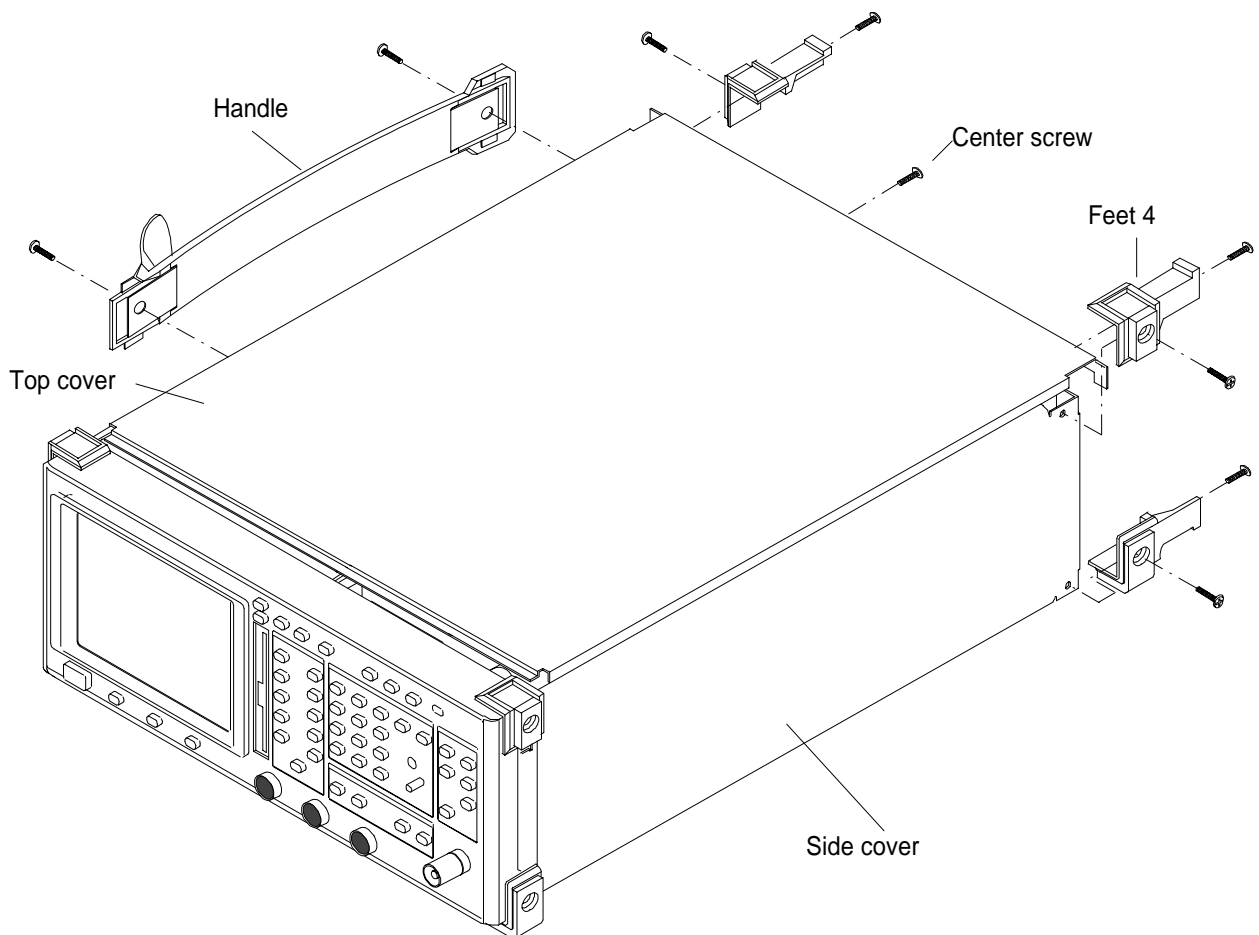

Figure 7-1. Exploded View of Chassis Covers
- Remove the feet from the two top corners at the rear of the 541XXA (Figure 7-1).